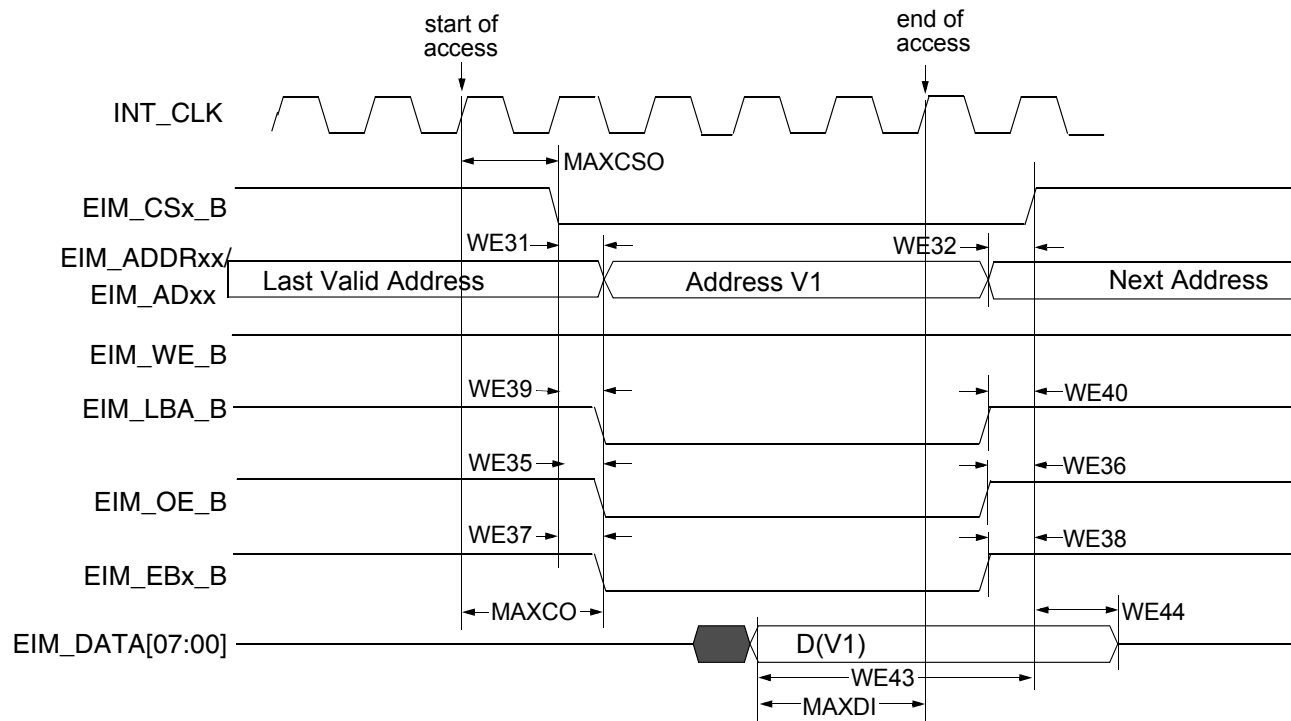
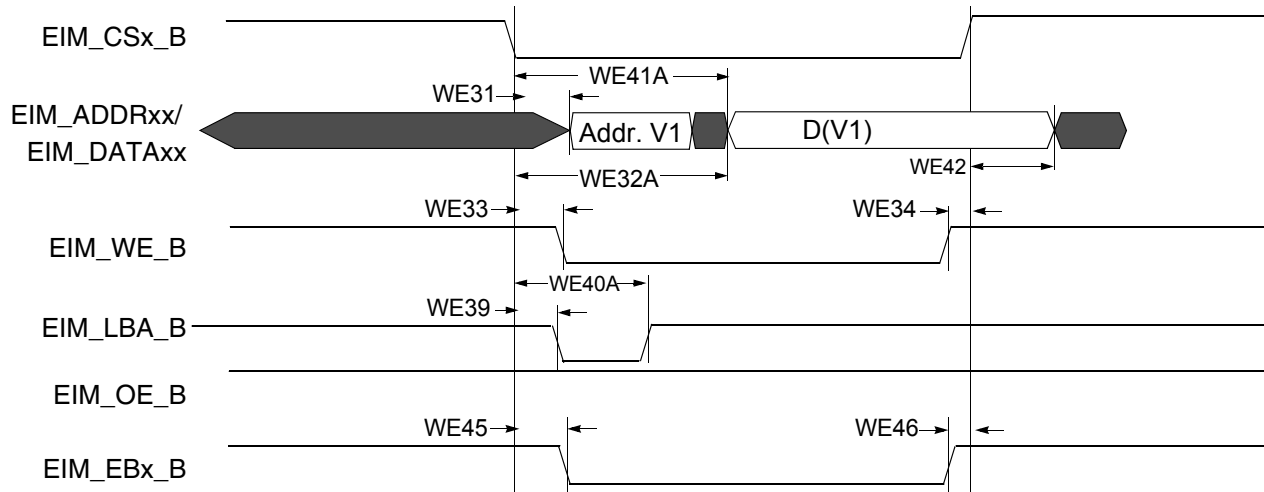
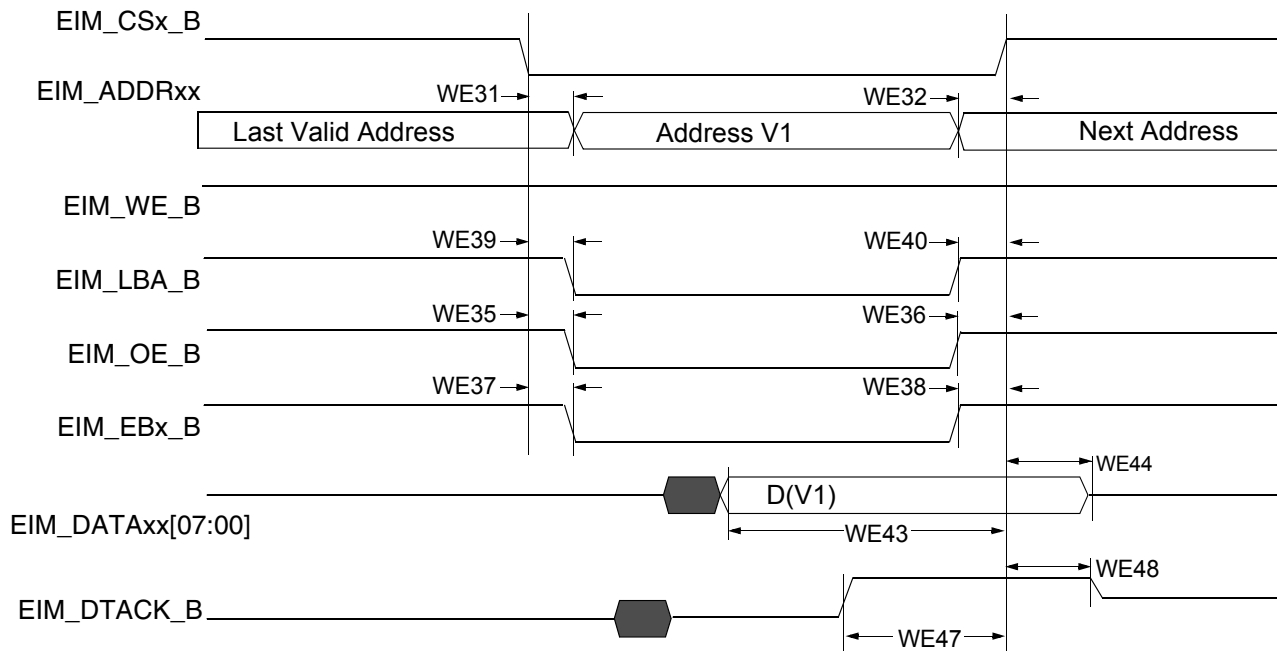

Figure 16. Asynchronous Memory Read Access (RWSC = 5)
Figure 19. Asynchronous A/D Muxed Write Access
Figure 20. DTACK Mode Read Access (DAP=0)
Figure 16 through Figure 20 and Table 38 provide timing parameters relative to the chip select (CS) state for asynchronous and DTACK EIM accesses with corresponding EIM bit fields and the timing parameters mentioned above.
Asynchronous read & write access length in cycles may vary from what is shown in Figure 16 through Figure 19 as RWSC, OEN & CSN is configured differently. See the i.MX 6Dual/6Quad reference manual (IMX6DQRM) for the EIM programming model.